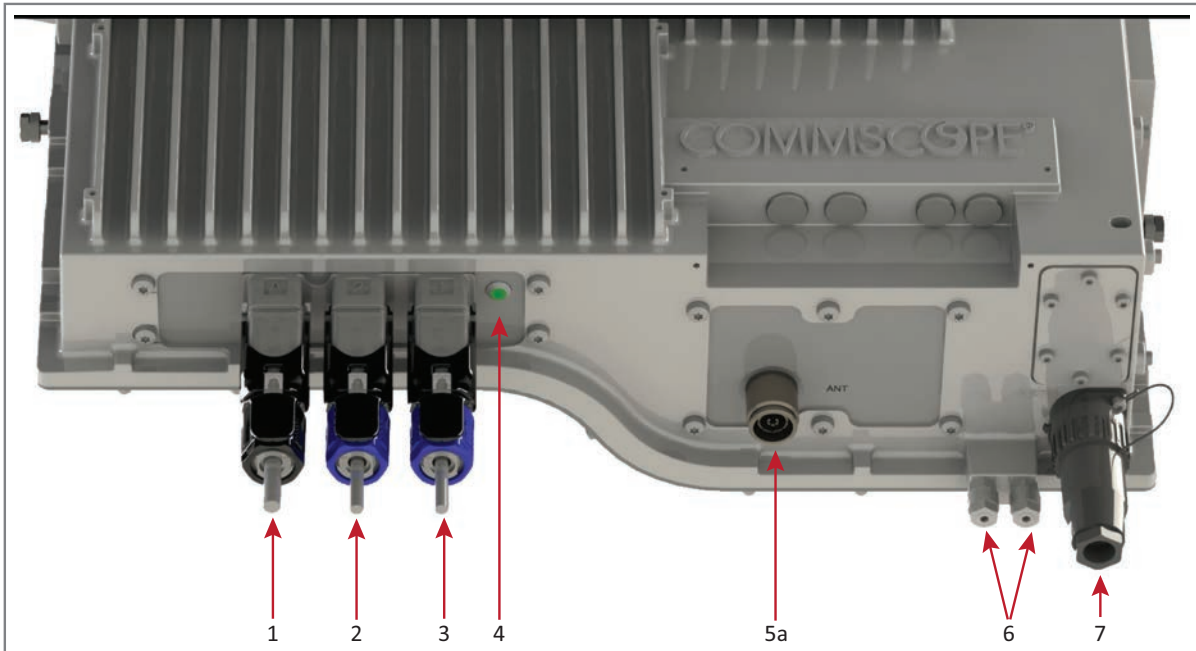
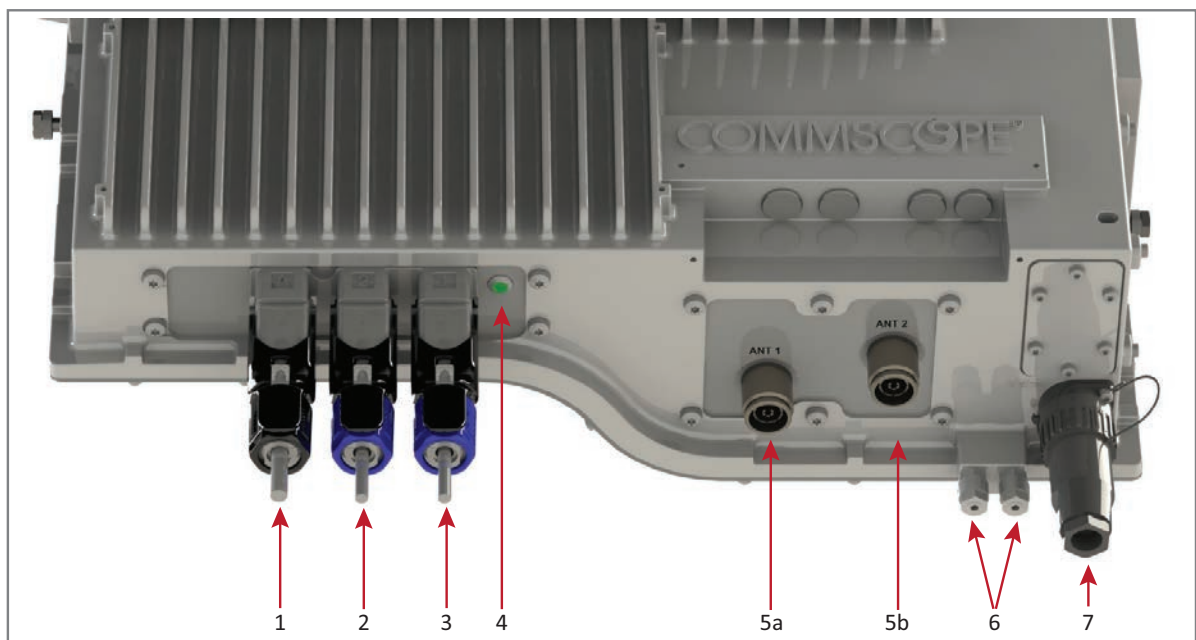

Figure 2. Location of Connectors and Power LED on a CAP M with One Antenna Connector
Figure 3. Location of Connectors and Power LED on a CAP M with Two Antenna Connectors
- Figure 2 shows the connectors and Power LED on a CAP M that has one antenna connector.
- Figure 3 shows the connectors and Power LED on a CAP M that has two antenna connectors.
- Table 2 on page 7 maps the callouts in Figure 2 and Figure 3 and describes the connectors and Power LED.